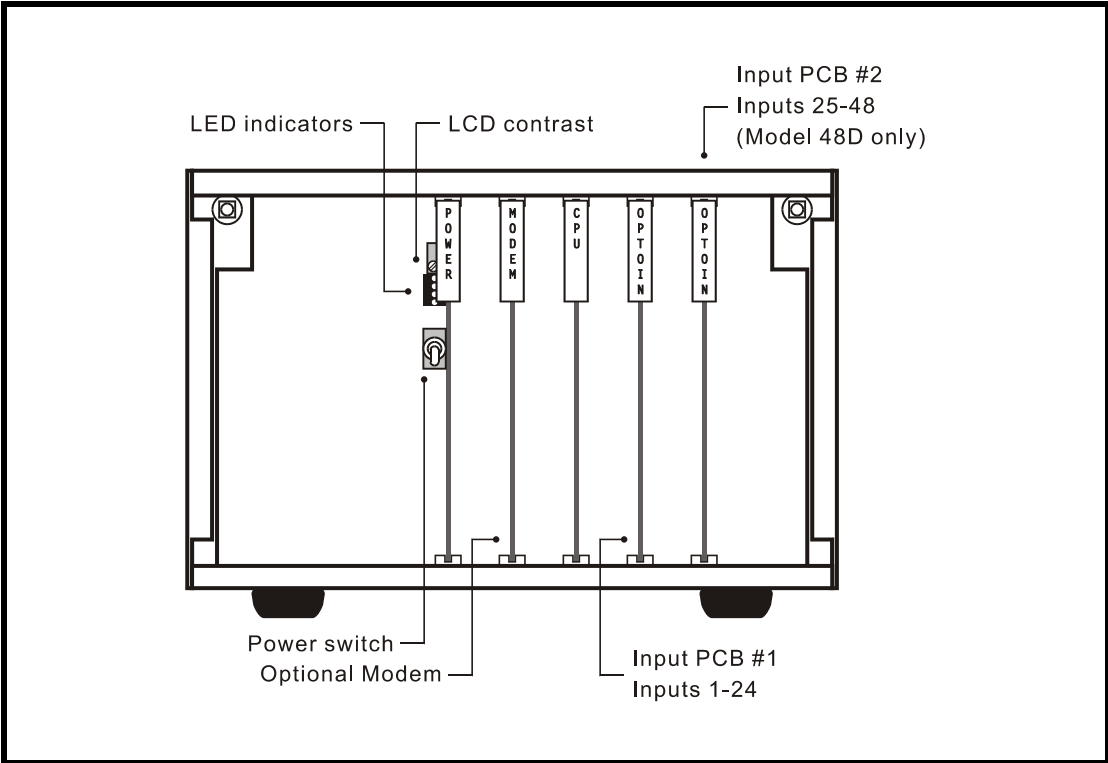

Figure 2 - PCB Positions
2. Ensure that the power switch is in the off or down position. It is located towards the left side of the unit on the printed circuit board (PCB) labeled “POWER”. Figure 2 on page 6 illustrates the location of the power switch and PCBs.
11. Perform a Dump of the Event Records by pressing **D** then **Enter** four times at the PC keyboard. Refer to the section entitled “Selective Dump of Events (D)” on page 32.
13. Before completing the Initial Check-out Procedure verify that the Liquid Crystal Display (LCD) is providing acceptable contrast. If it needs to be adjusted rotate the potentiometer on the Power Supply PCB. Refer to Figure 2 on page 6.